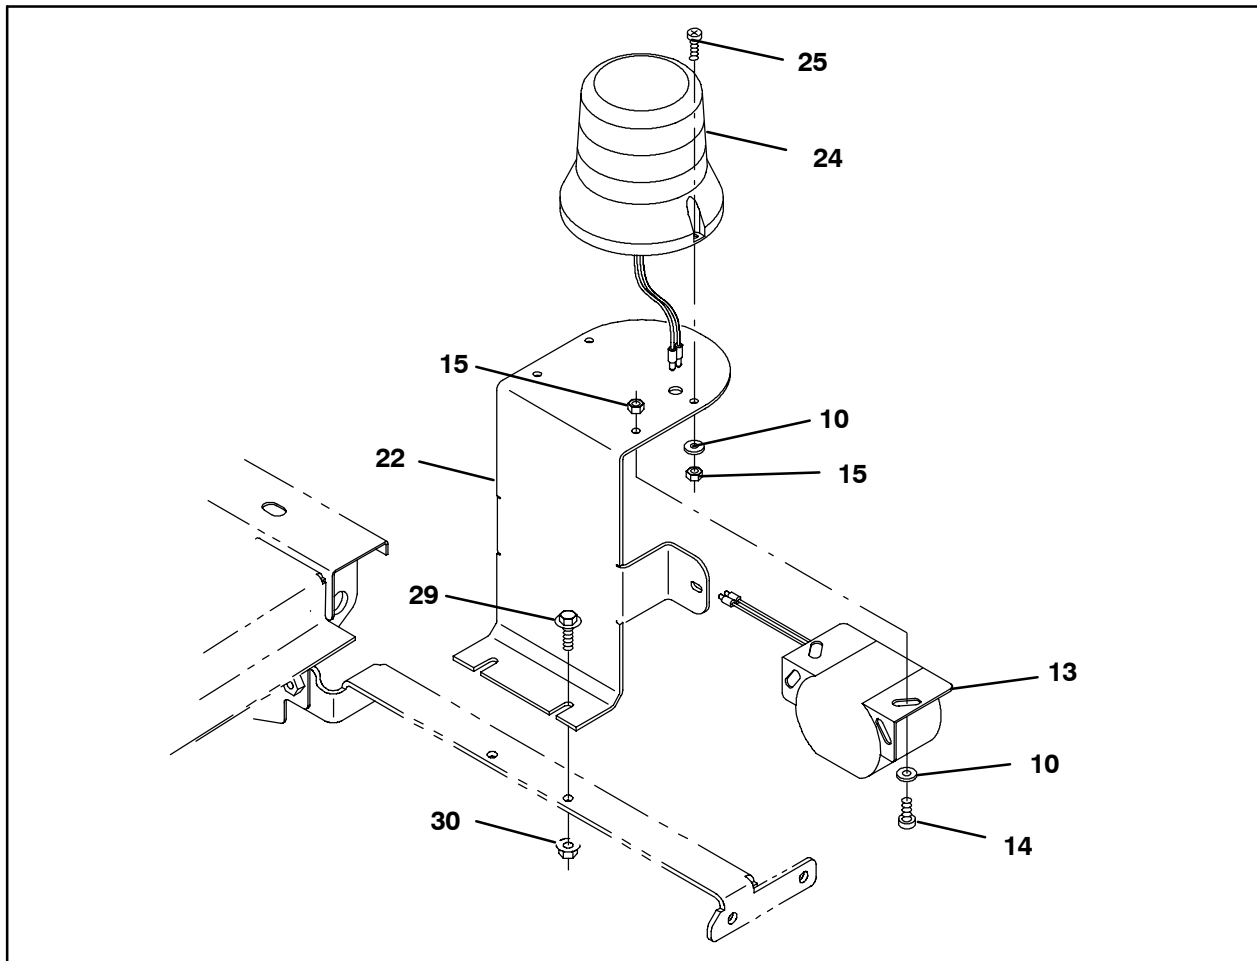

FIG. 1
1. **Machines without overhead guards:** Use two pan screws (25), two washers (10), and two hex nuts (15) to install the light (24) onto the backup alarm bracket (22). Refer to Fig. 1.
2. Use two pan screws (14), two flat washers (10), and two hex nuts (15) to install the backup alarm assembly (13) onto the backup alarm bracket (22). Refer to Fig. 1.
3. Use two SEMS hex screws (29) and two flange hex nuts (30) to install the backup alarm / flashing / strobe light assembly onto the machine. Refer to Fig. 1.